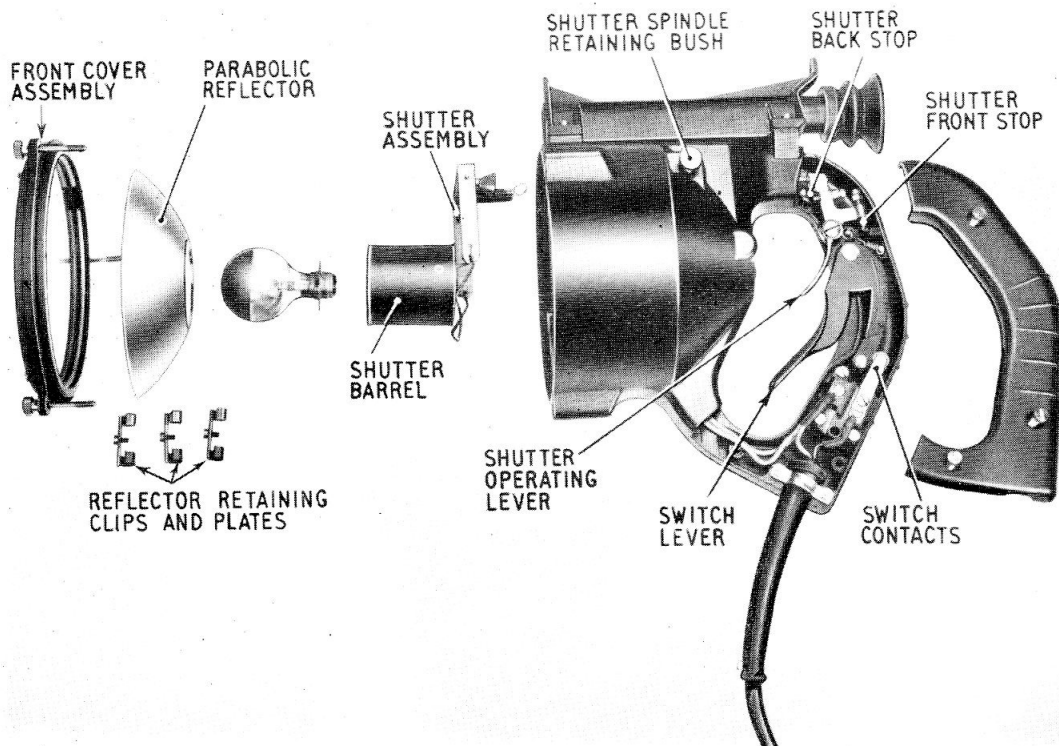
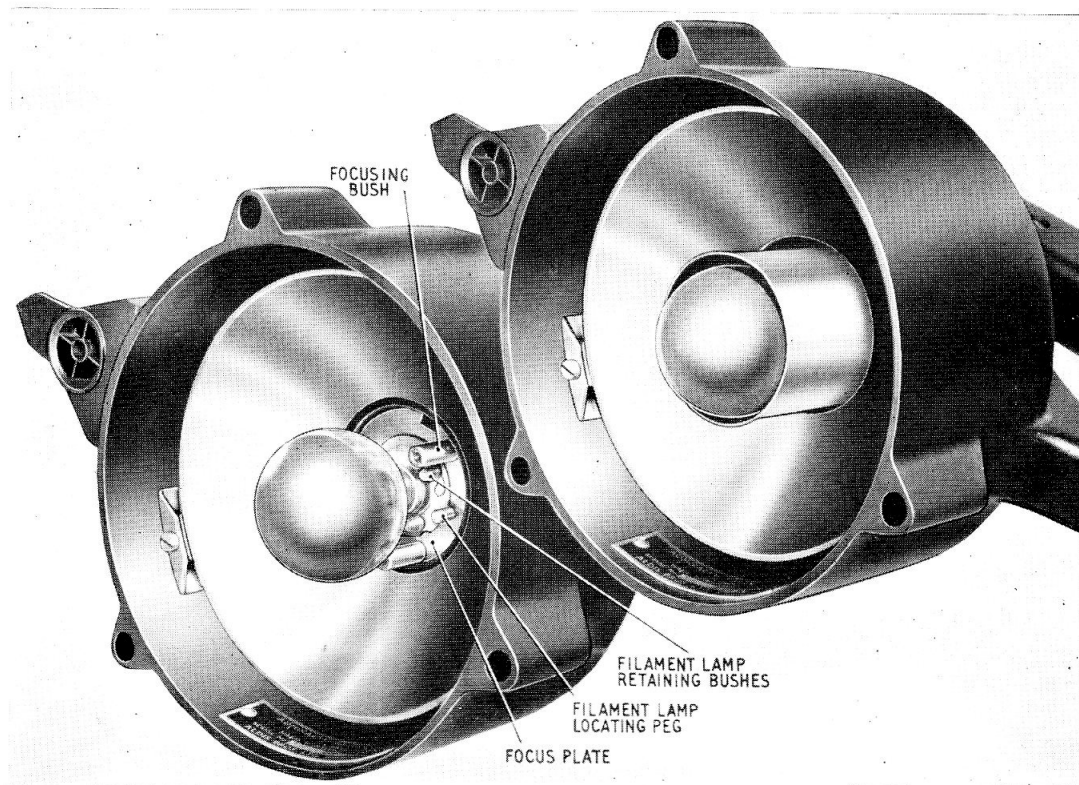
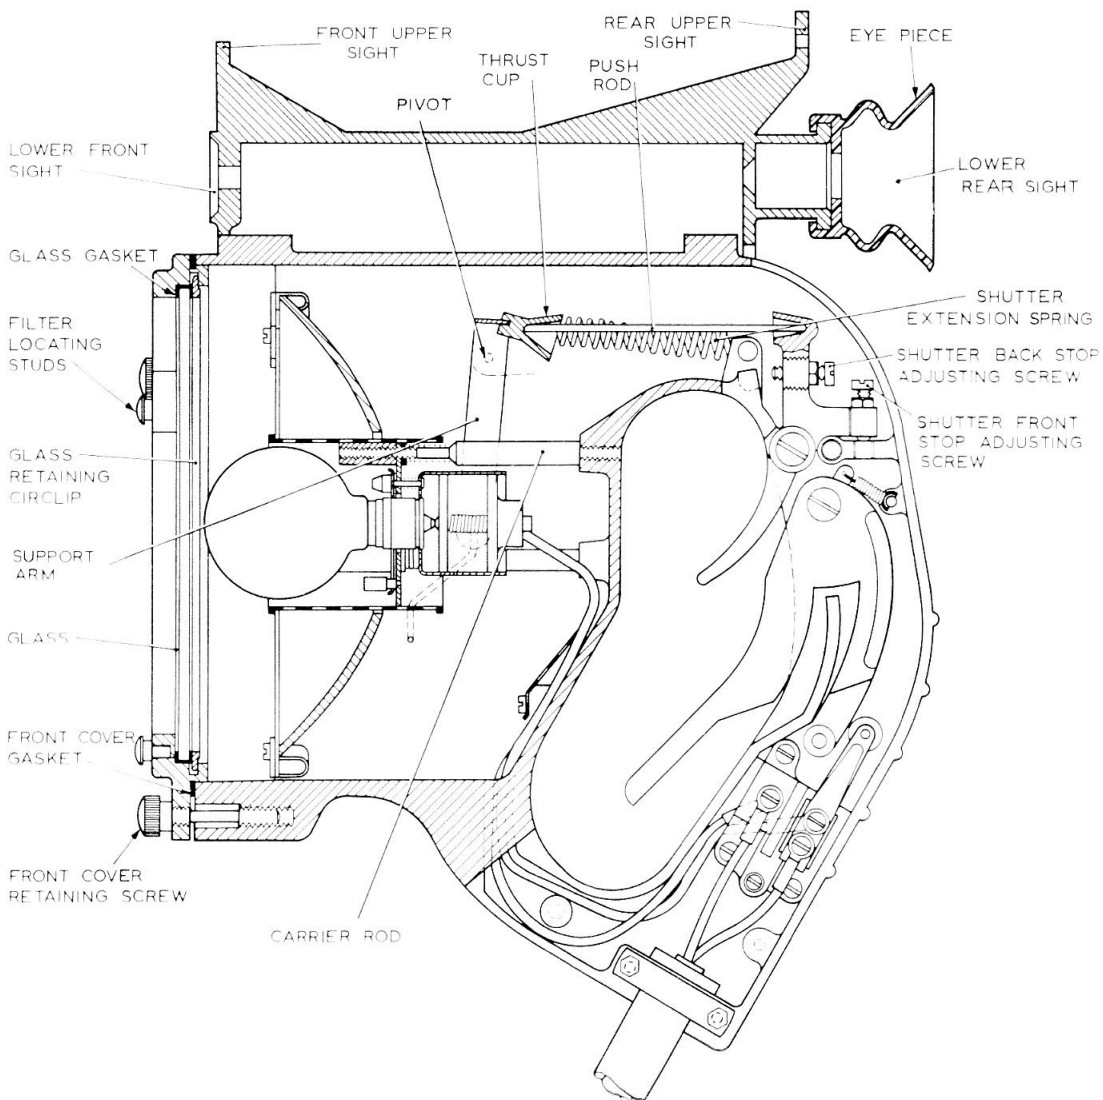

Fig. 2. Lamp, exploded view
Fig. 3. View showing shutter positions
Fig. 4. Section view
3. The lamp (*fig. 2*) consists of an aluminium die cast body and handle. A lampholder and reflector are contained in the lamp body together with the shutter assembly. A front cover assembly is secured to the front of the body by three screws. A shutter operating lever and filament lamp switch are located in the handle, and a target sighting arrangement is fixed to the top of the lamp. A section view of this lamp is shown in *Fig. 4*.
5. The lampholder is mounted by the focus plate on three carrier rods and held against spring tension by three bushes. By individual adjustment of these bushes (*fig. 3*), the filament lamp can be set to its correct focus position. Three retaining bushes spaced on the focus plate secure the bulb in position and a locating peg positioned at the centre of two of the focus bushes ensures that the bulb is set into the lampholder in its correct position. Two screw terminals at the rear of the lampholder are provided for cable connections.
6. The shutter assembly consists of a shutter barrel, shutter support arm and spring, shutter bearing rod, thrust cup and extension spring. This assembly is pivoted about the bearing rod, which is held in position in the lamp body by a retaining bush (*fig. 2*). The shutter barrel is free to travel over the lamp filament and is aligned in its axial movement by the focus plate and the carrier rods. A
7. The shutter operates against the tension of the extension spring and it is returned to its forward position when the lever is released. *Fig. 3* shows the shutter in its forward and rear positions. Two stops (*fig. 2*) provided on the lever are for adjusting the shutter barrel in its forward and rear positions.
11. The supply to the filament lamp is switched by the operation of a switch lever located in the handle. This lever shown in (fig. 2) carries a contact which is mounted on an extension arm. This arm and contact moves between two spring leaf contacts secured to an insulated block located in the handle. Connections to